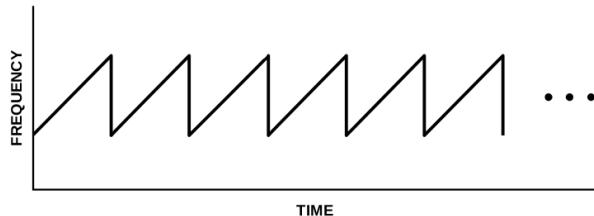
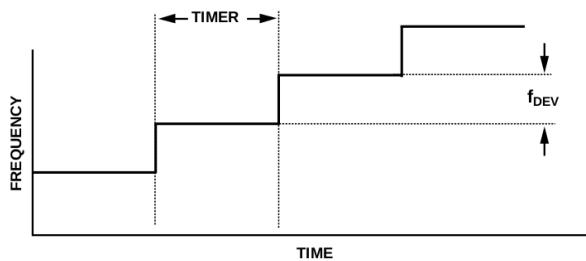

Figure 3.10: Sawtooth ramp.
Figure 3.11: Waveform timing.
The ADF4158 is capable of producing several different waveforms. The one used in this design is a sawtooth ramp in frequency as a function of time, shown in Figure 3.10. There are 3 different parameters that determine the shape of a ramp: (1) frequency deviation (the amount the frequency increases at each time step), (2) timeout interval (the amount of time between each time step) and (3) the number of time steps. This is shown diagrammatically in Figure 3.11. The equations governing these parameters are given in Equation 3.5. The number of steps is set directly in register 6. In our configuration $f_{\text{DEV}} = 300\text{kHz}$ and Timer = $0.5\mu\text{s}$, which given that the number of steps is equal to 2000 and the starting frequency is 5.3GHz, the sawtooth will ramp from 5.3GHz to 5.9GHz in 1ms. We also use a delay between bursts of 2ms. Equation 3.6 is used to derive this.